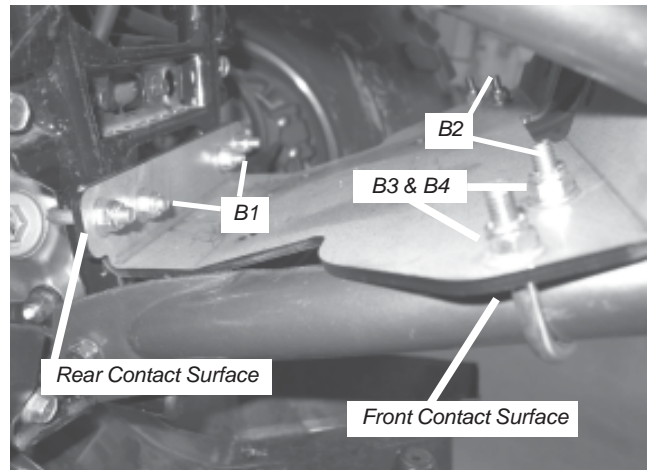

Figure 5 Fasten Winch Mounting Plate
5. Attach the mounting plate (A1) by sliding the supplied 5/16" U-bolts (B1) and (B2) around the tubes and through the plate, Figure 5. Fasten the U-bolts with the supplied washers (B3) and nuts (B4), ensuring that the plate sits flush against the front and rear contact surfaces. Tighten all 5/16" fasteners to the recommended torque value of 12 N-m (9 ft-lbs).